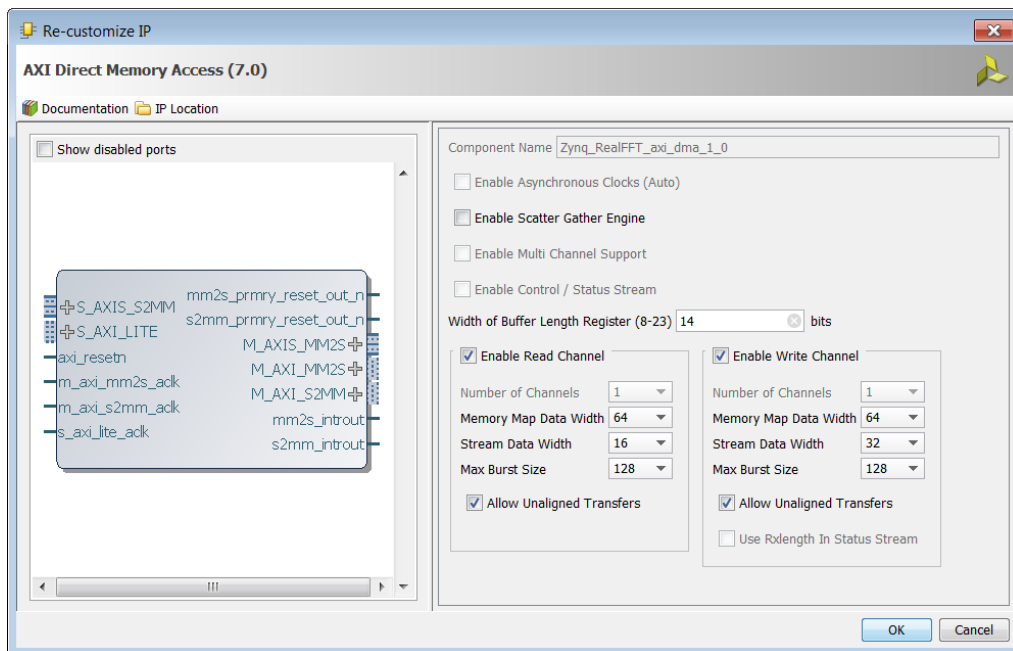

Figure 259: Configuring the AXI Direct Memory Access
22. Double-click the **axi_dma_1** component to open its Re-customize IP dialog and make the following changes (Figure 259):